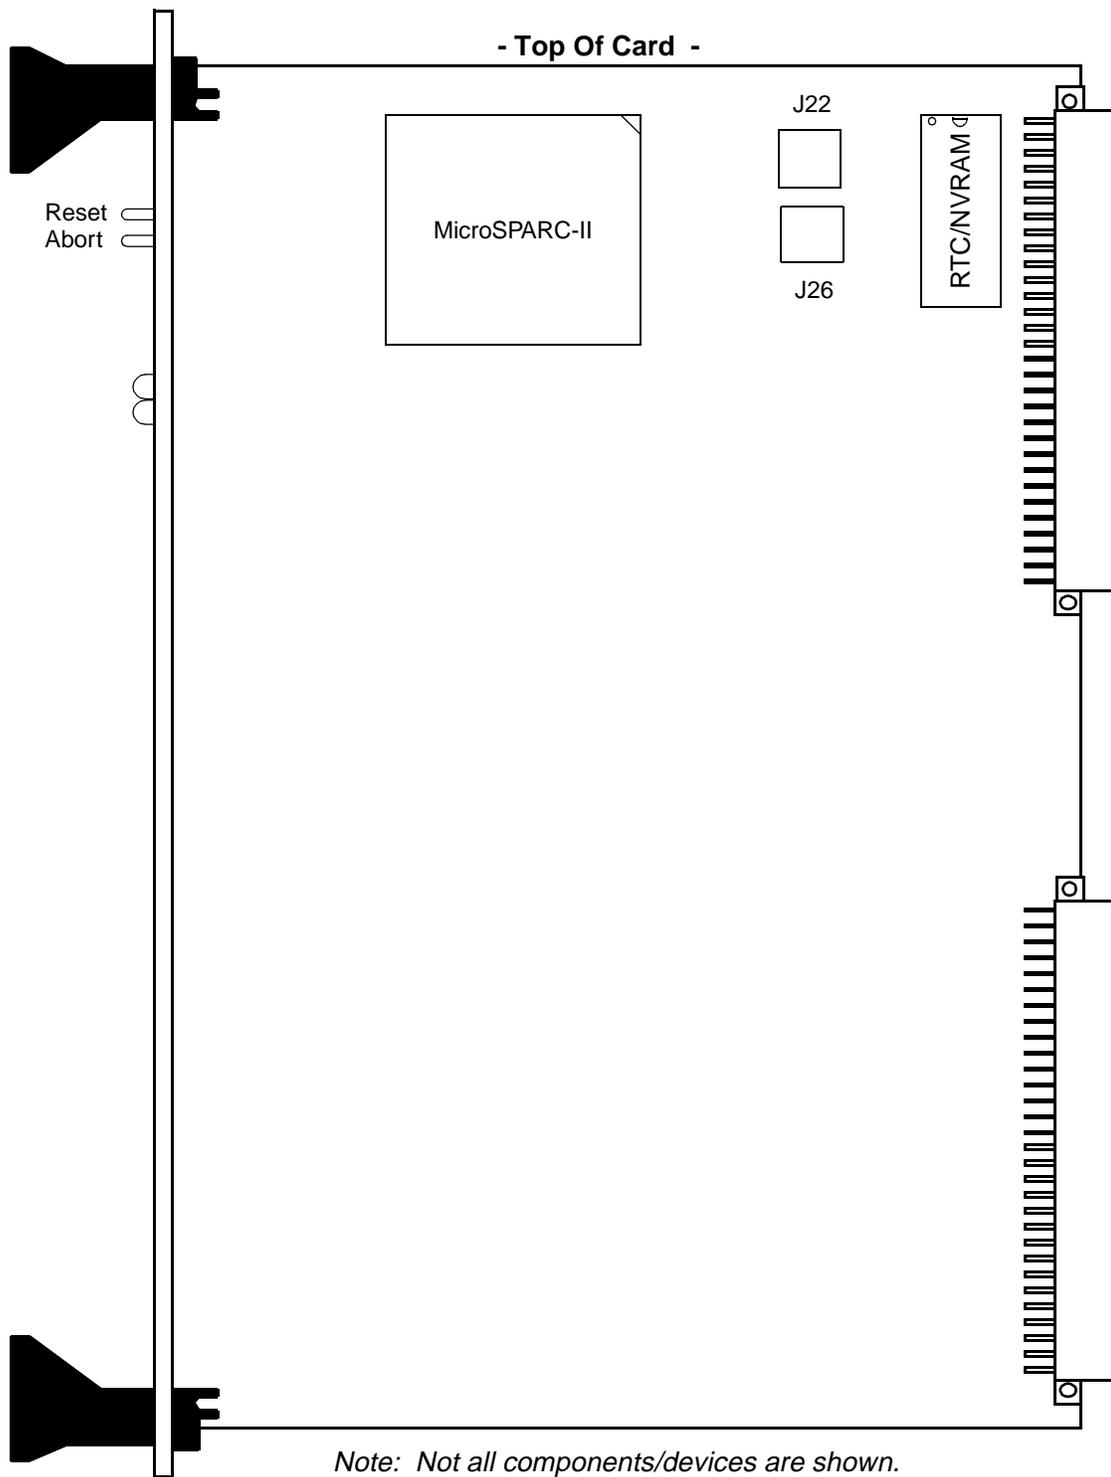
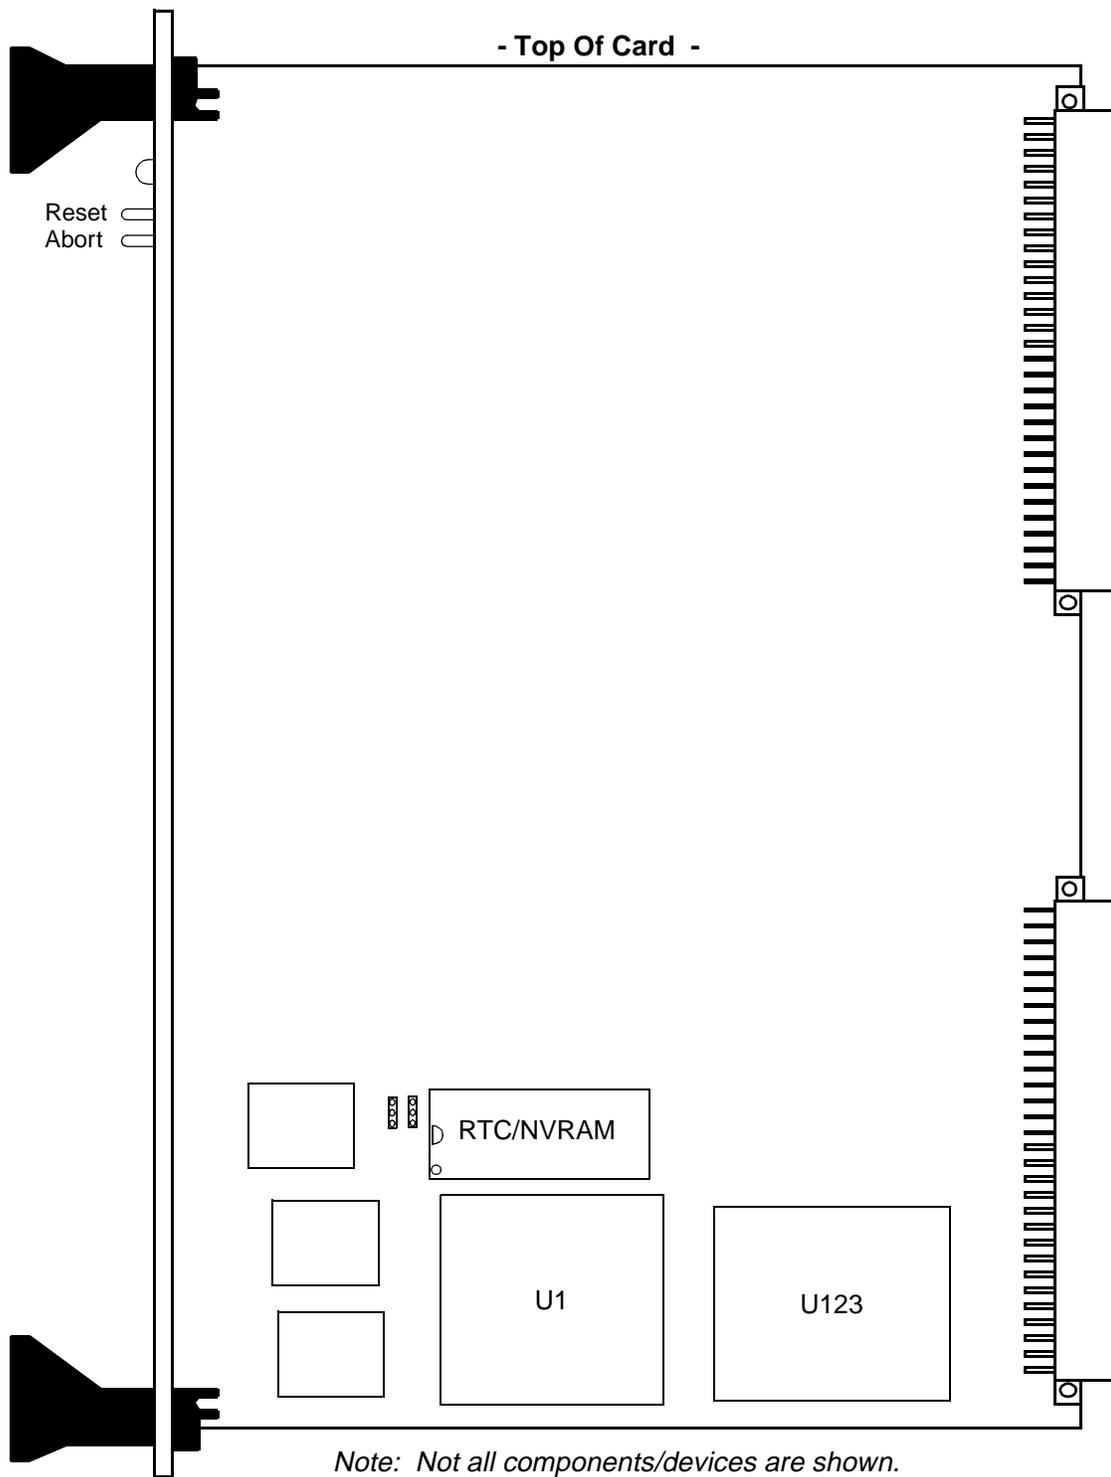

Figure 1: RTC/NVRAM Location on SPARC CPU5V
Figure 2: RTC/NVRAM Location on SPARC CPU2CE
2. Locate the RTC/NVRAM chip on the CPU card. The location of the chip on the CPU5V card is shown in Figure 1. The location of the chip on the CPU2CE card is shown in Figure 2.